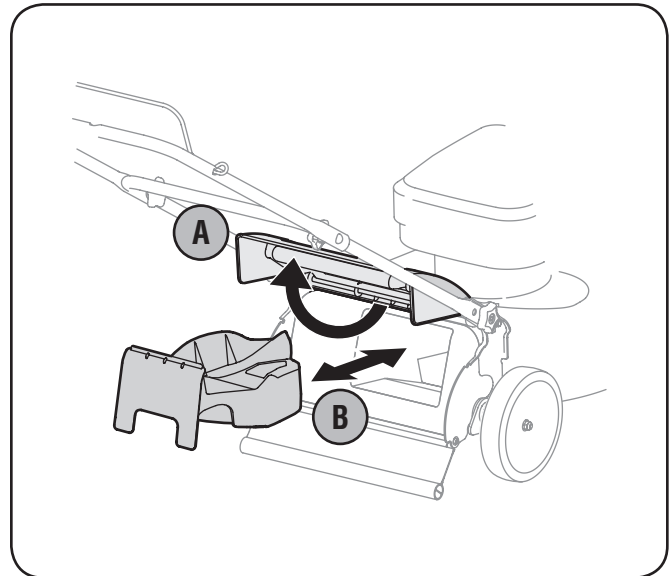

Figure 3-5
- b. Remove mulching baffle. See Figure 3-5.